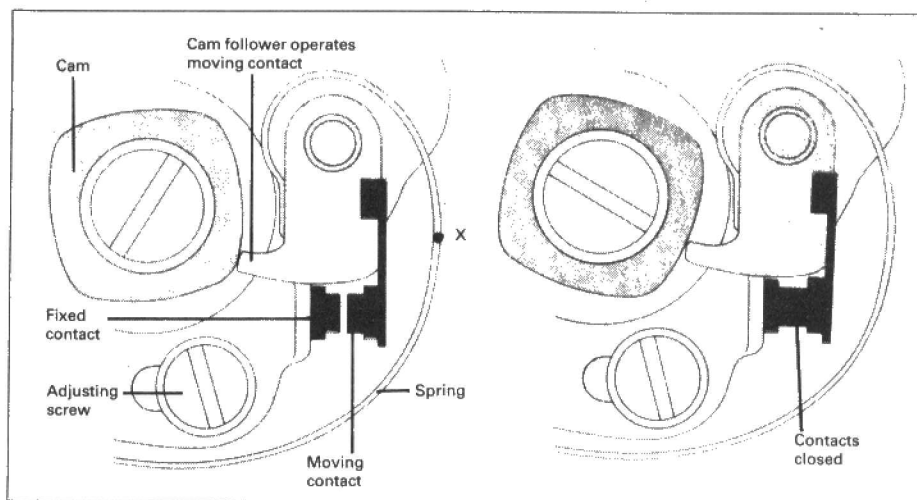

Figure 3.5. Contact breaker assembly
The timing of the opening of the points is critical. The distributor shaft cam opens the gap as in figure 3.5, the positioning of the contact breaker points assembly is critical together with the gap width. The points, after a period of wear, tend to corrode and pitting occurs; a
5. Connect a 12V lamp between the contact breaker spring (see point X in Figure 3.5) and a good earth point.